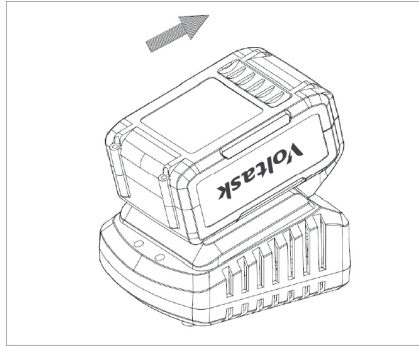

Fig. 7
7. When charging is complete, remove the battery from the charger by pressing the push-lock button and sliding the battery backward to unlock it from the charger. (Fig.7)